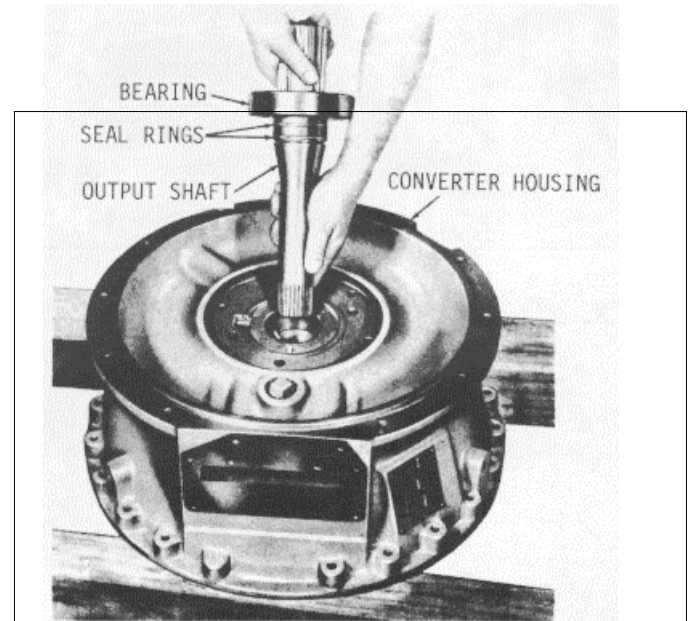

Fig. 13
- (4) Remove the converter output shaft (Fig.13). A bearing and two seal rings will come out with the shaft.